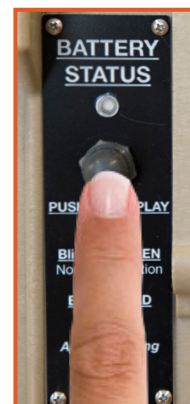

Figure 9. Li Expander Pak battery status indicator
2. Check the battery status. The Li Expander Pak Battery Status LED is activated by depressing the momentary switch (Figure 9). The LED will either flash (green or red) or emit no light (see Table 1)